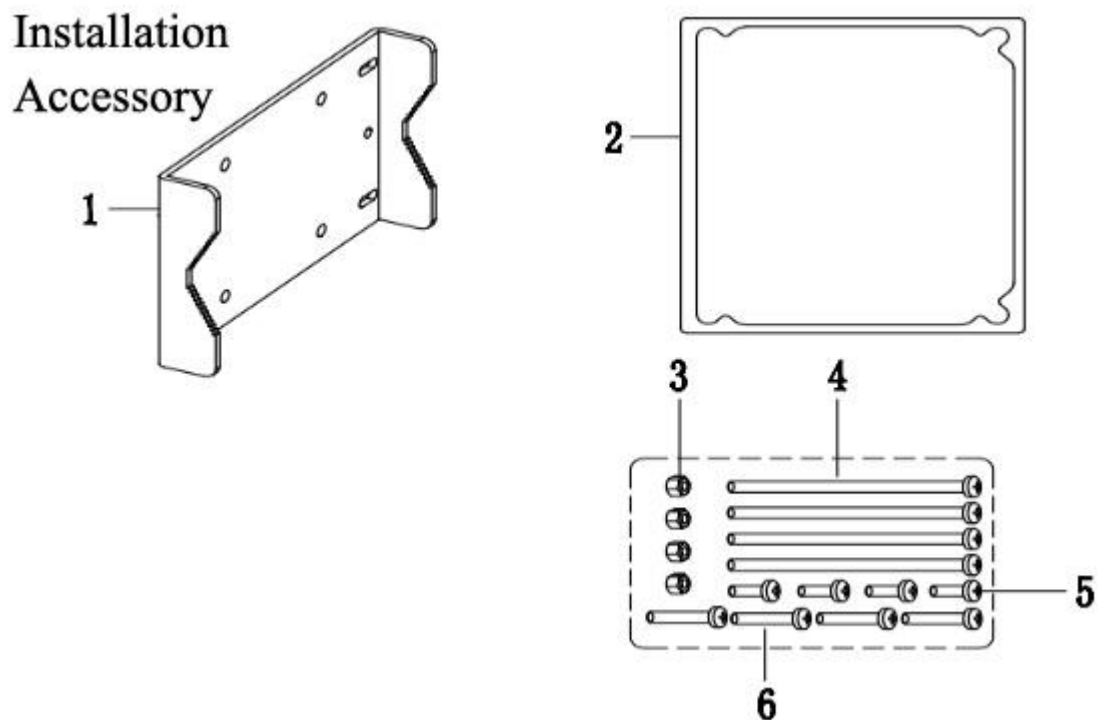

Figure 3 Installation Components
- ① Figure 3 shows the transmitter installation components.